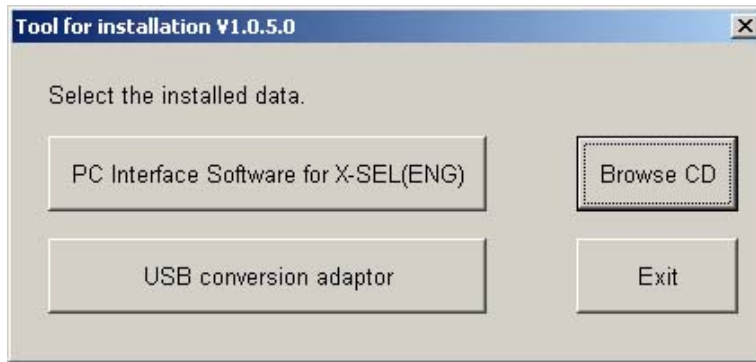

Fig. 1.1 Installed Data Selection Screen
- [2] The installed data selection screen (Fig. 1.1) will be displayed.